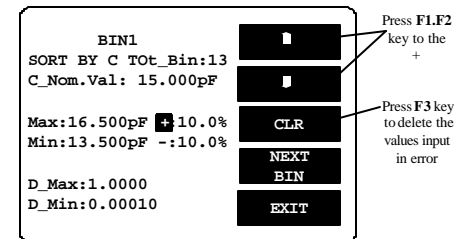

Figure 8-18
- Press \downarrow key. Please refer to Figure 8-18 below.